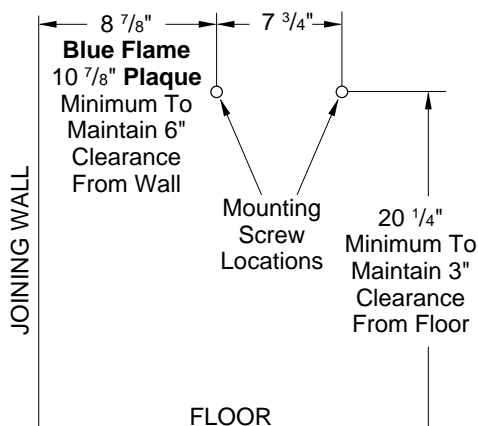

Figure 5 - Mounting Screw Locations
⚠ WARNING: Maintain minimum clearances shown in Figure 5. If you can, provide greater clearances from floor and joining wall.
2. Mark two mounting screw locations on wall (see Figure 5).